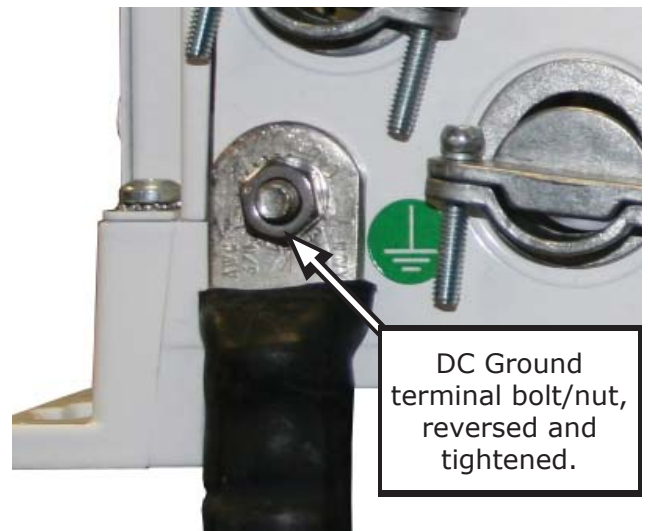

Figure 2-14, Large Ground Wire Connected to MSH-RE Series
4. Reverse the removed bolt and place it back in the chassis hole to attach a correctly sized ground cable to the inverter's chassis as shown in Figure 2-14.